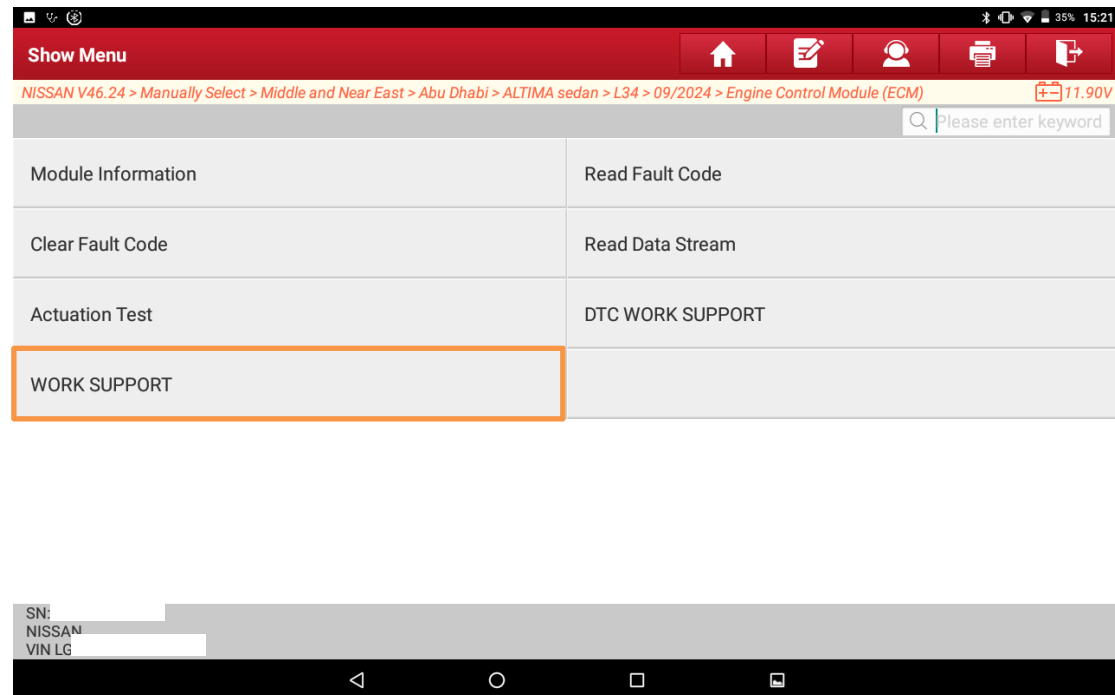

Figure 9
5. On the ECM menu interface, choose [WORK SUPPORT] to enter the [WORK SUPPORT] menu interface (Figure 9).